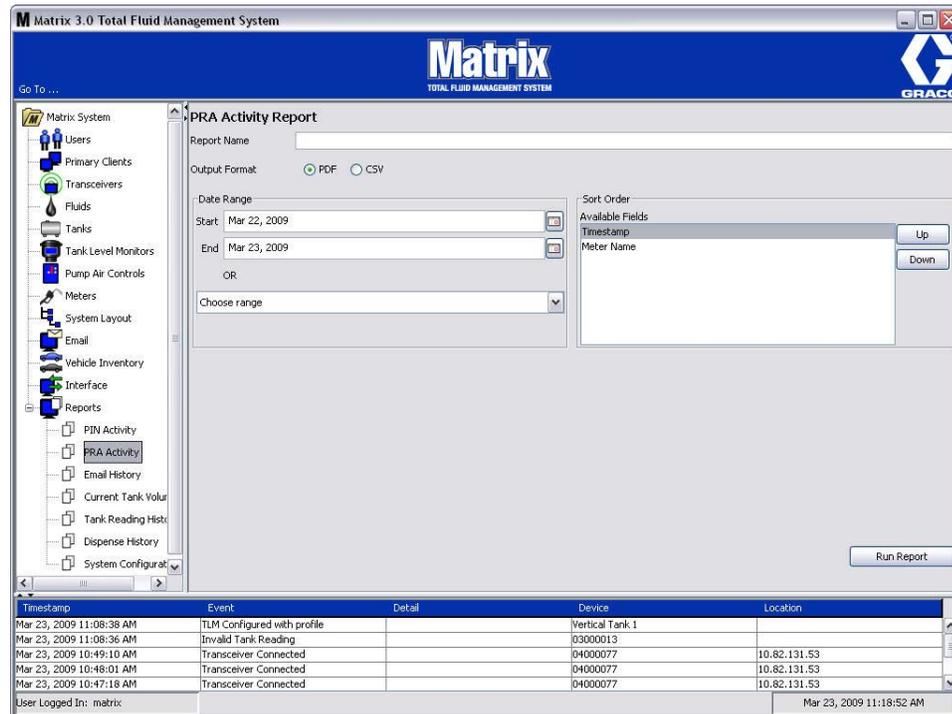

FIG. 214
- **PRA Activity Screen (FIG. 214)**